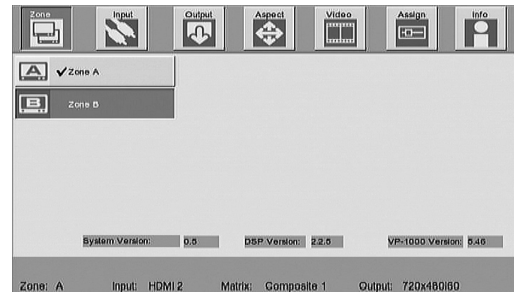

Figure 52
2. Using the ▼DOWN Push-button highlight the ZONE B Icon. Refer to figure 52.